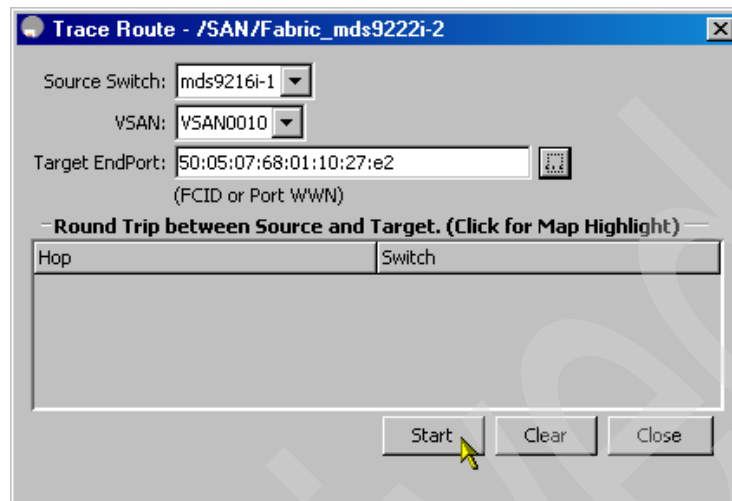

Figure 8-21 Trace Route configuration window
- Click **Start** to perform the traceroute between your switch and the selected port, as shown in Figure 8-21.